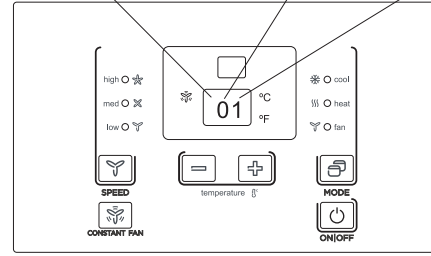

Figure 5
- Press the up (+) and down (-) buttons together for 3 seconds to activate the dip switches configurations by panel control (see Figure 5).
- Display function settings with 2 digitals in LED display window, high (left) for dip switches, low (right) for functions (see Figure 5).